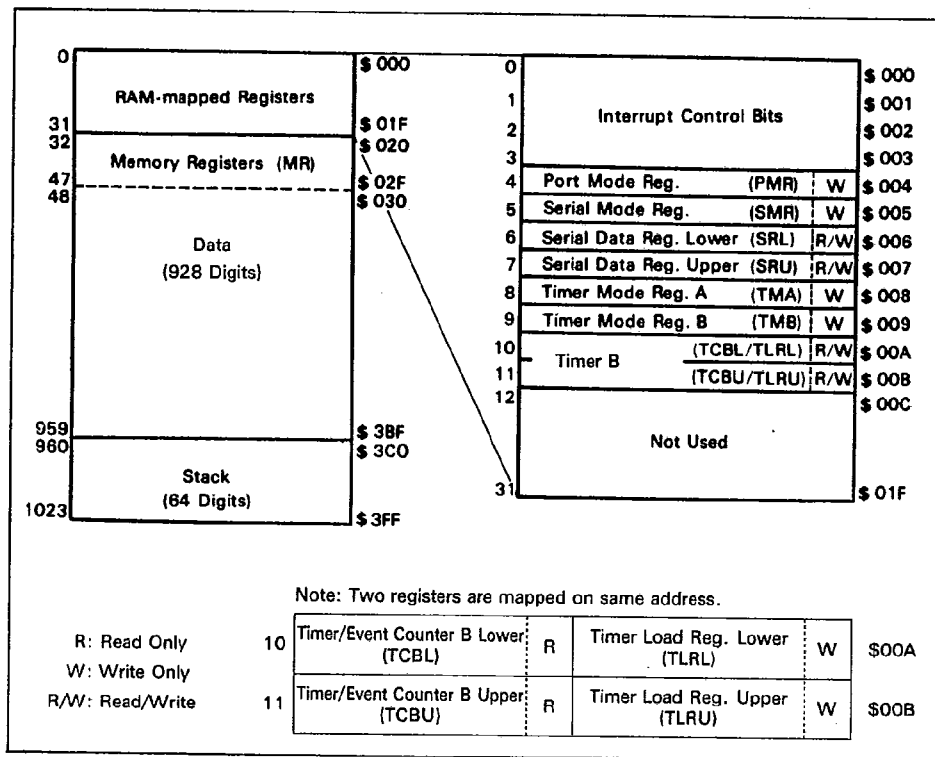

Figure 2. RAM Memory Map
The MCU includes 992 digits of 4-bit RAM as the data and stack area. In addition to these areas, interrupt control bits and special function registers are also mapped on the RAM memory space. The RAM memory map (figure 2) is described in the following paragraphs.
**Special Function Registers Area (\$004 to \$00B):** The special function registers are the mode or data registers for the external interrupt, the serial interface, and the timer/counter. These registers are classified into three types: write-only, read-only, and read/write as shown in figure 2. These registers cannot be accessed by RAM bit manipulation instructions.